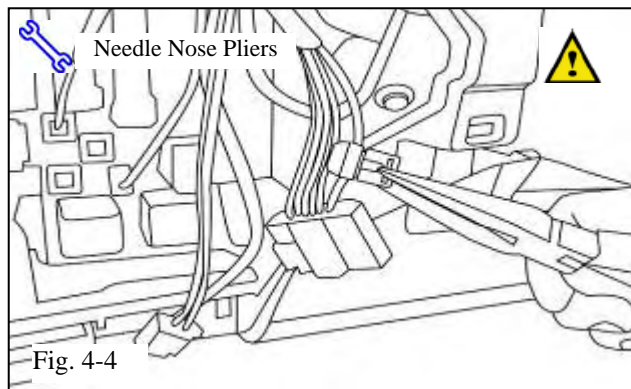

Fig. 4-4
- (d) Attach T-tap connector to GREY wire (pin #8) on the 10 pin connector with needle nose pliers about 1 inch from the connector. (Fig. 4-4)